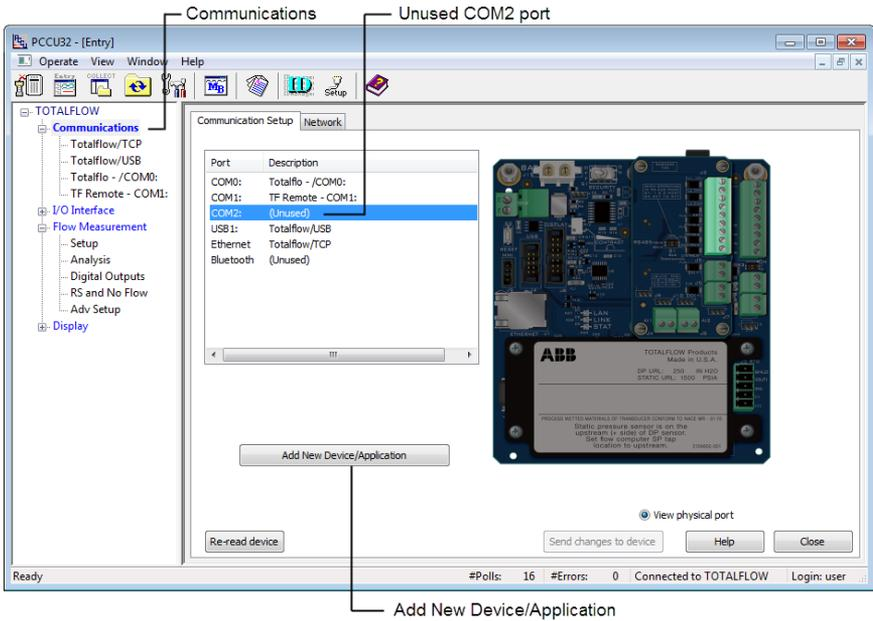

Figure 22: Add the I/O expansion communication port
1. Click **Communications** in the navigation tree (Figure 22).